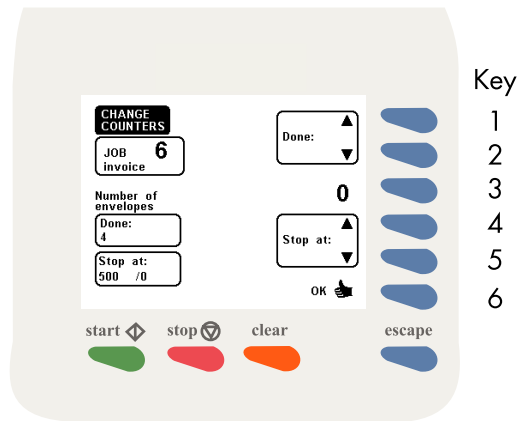

Fig. 21
After pressing key 4 in the "main menu", the display shows the "change counters" menu (Fig. 21). The "change counters" menu shows the following functions:
- increase the counters (key 1).
- decrease the counters (key 2).
- reset counters to zero (key 3).
- increase the preset counters (key 4).
- decrease the preset counters (key 5).
- save the counter settings with "OK" (key 6) which will get you back to the "main menu".